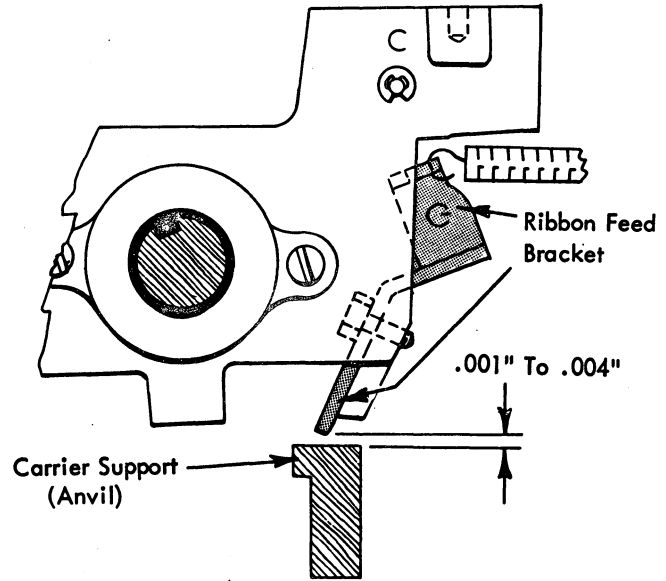

FIGURE 142.1 Carrier Support (Long Carriage Machines)
6. **Carrier Support** (long carriage machines) - Adjust both ends of the support vertically to maintain .001" to .004" clearance with the bottom of the ribbon feed bracket along the entire length of the writing line (Fig. 142.1).